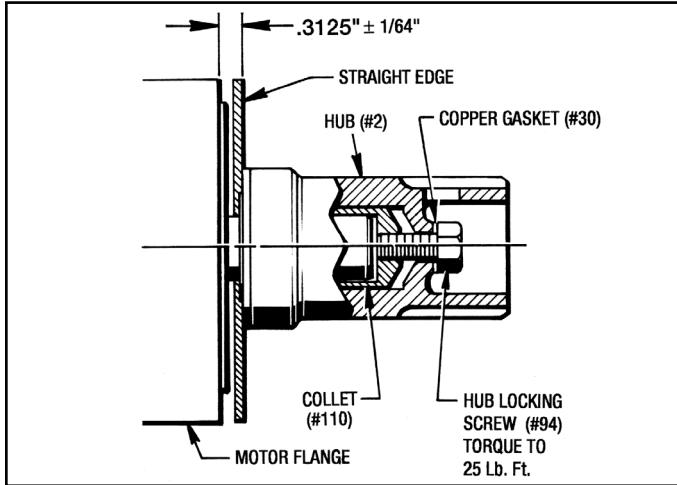

Figure 3 - Hub Alignment
1. Holding a straight edge across the face of the Hub, measure from the straight edge to the motor mounting face. It should measure 5/16". Adjust if necessary. (See Figure 3)